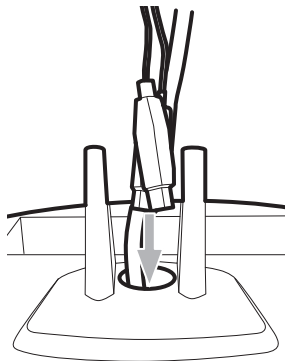

Figure 34
2. Route the power cable from the mount DOWN through the center hole of the base. Route the transducer jump cable UP through the base and mount. (Figure 34)